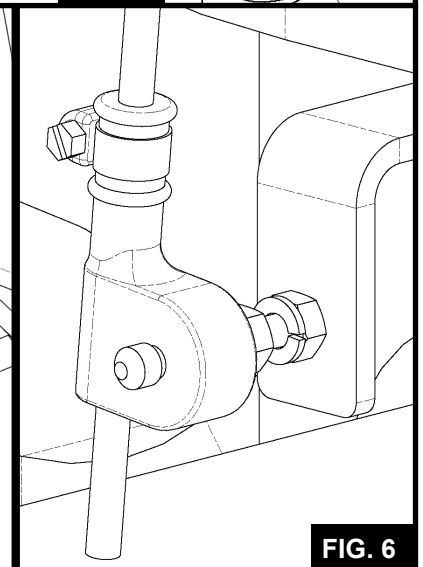

FIG. 6
6.7 Tighten the clamp on the P-boot with flat heat screwdriver at this length until final ride height is achieved (See FIG. 6).